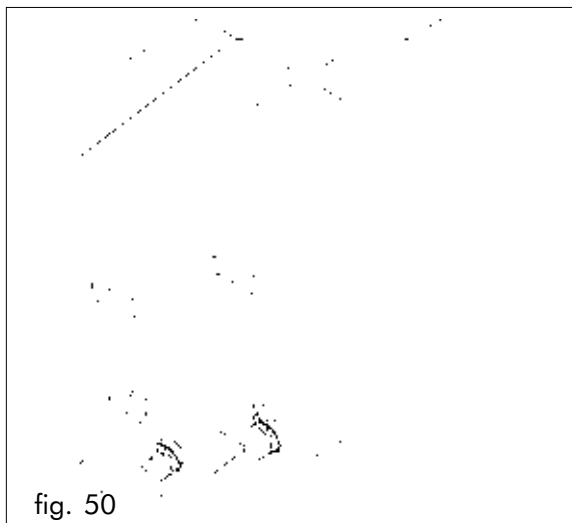

fig. 50
- To load containers, take out each of them paying attention to close the sliding door provided on the product exit mouth (Fig.50). Particularly, for the coffee bean container, it is necessary to close the hopper sliding door before removing the container.